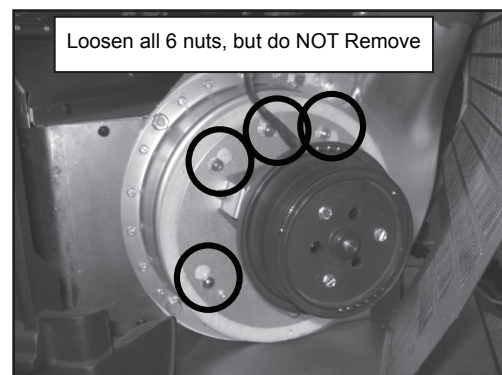

Figure 24.4
2. Remove side panel and then using an 11/32 nut driver to loosen all six nuts, but do not remove. Rotate the blower and remove from the housing. **Figure 24.4.**